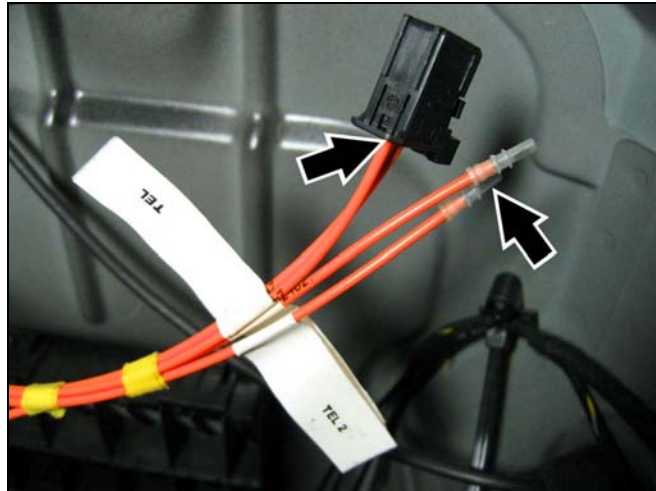

Figure 16
3. At the telephone control module (Figure 16) in the right well of the trunk, configure the MOST ring according to Figure 51.